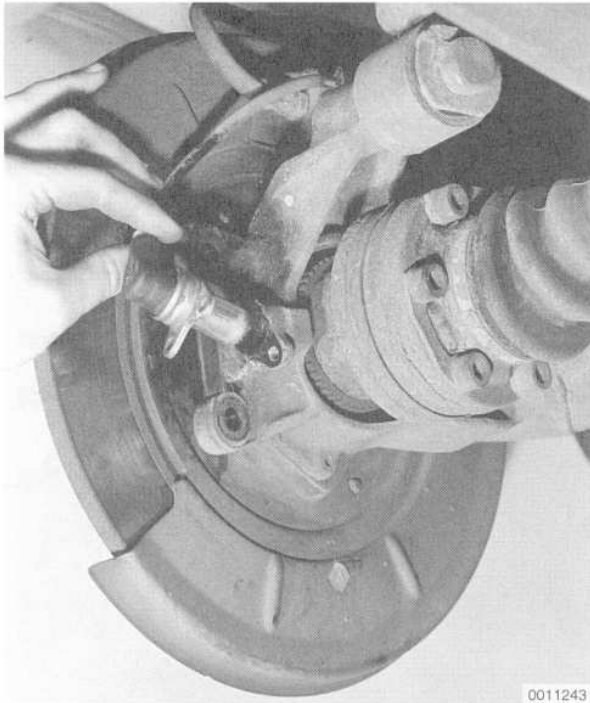

Fig. 8. ABS pulse sensor being removed.
7. Remove the ABS pulse sensor. See Fig. 8.